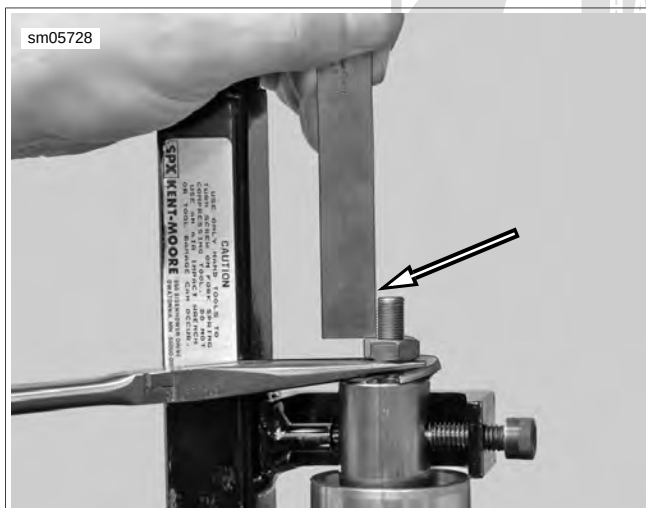

Figure 2-108. Measure Retaining Nut Installed Height
17. See Figure 2-108. Install retainer nut on cartridge rod 14 mm (0.551 in.) from top of rod and install fork cap onto cartridge rod.